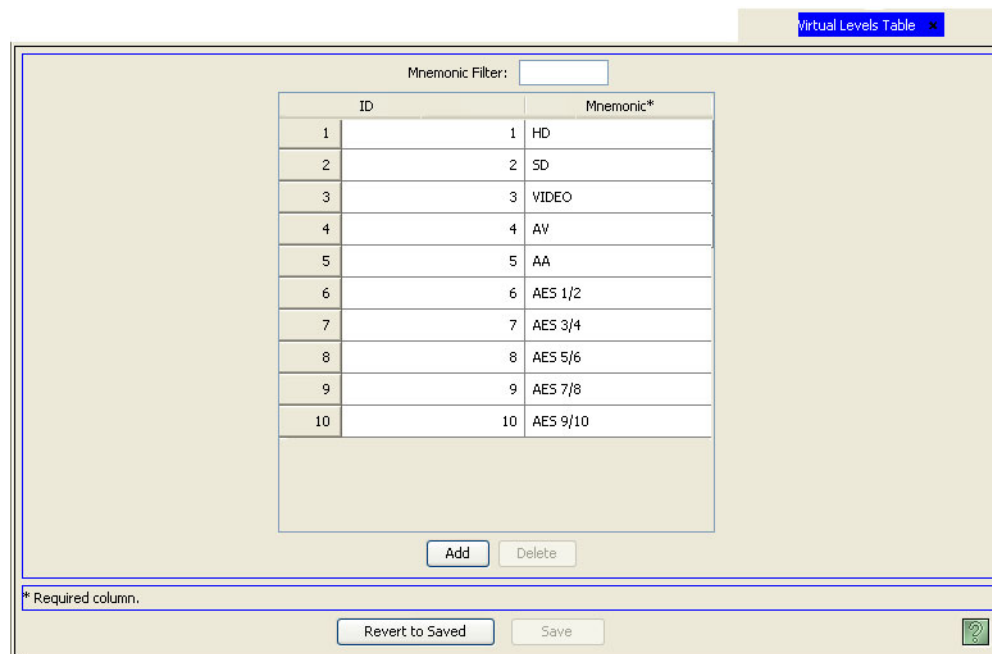

Figure 8-9. Virtual Levels Tables
- 2 From the Navigation area, select the ‘Views’ pane and then ‘Virtual Levels’. The ‘Virtual Levels’ table appears, as shown in Figure 8-9.